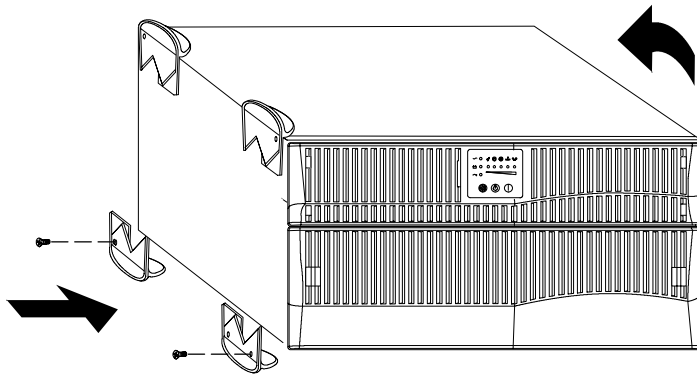

Figure 5. Installing the UPS Pedestals
2. Place the UPS horizontally, so that the left end of the unit is accessible (see Figure 5).
3. Align the UPS pedestals over the holes on the end of the UPS as shown in Figure 5. Secure the pedestals with the supplied screws.